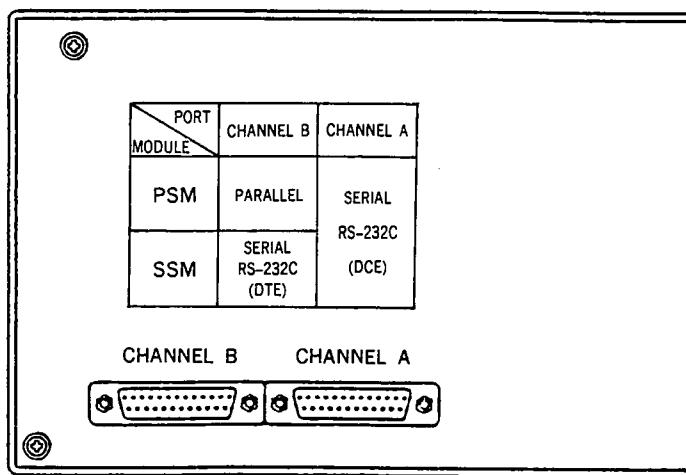

Figure 3-1 Communication Interface Connection
- 3) Set up the interface cable to be used between the terminal or host computer and the MICE (Section 2.3) and plug it into the female D-shell connector at the back of the MICE (Figure 3-1).